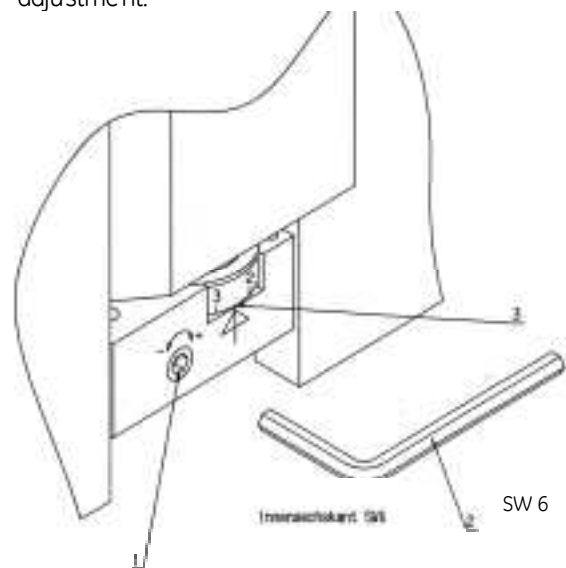

Fig. 3 Setting of the OCT unit
- For handling the unpacked breaker use canvas slings and position them below the closing drive **(a)** and below the **lower terminal (b)** [Fig. 3].
- If equipped with an adjustable OCT, the response threshold can be easily adjusted [Fig.3], by turning the adjustment nut **1** with a SW6 hexagon wrench **2**.